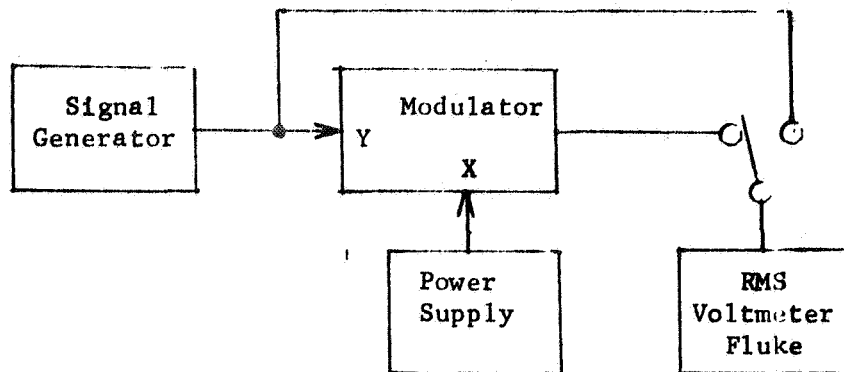

Figure 2.2
- A. Connect the test circuit shown in Figure 2.2 to modulator 1.